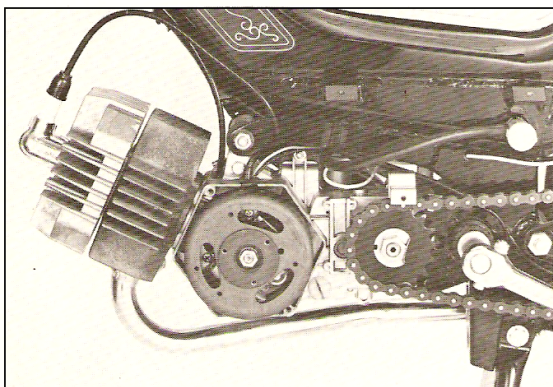

fig. 1
- remove the housing cover at magneto side. fig. 1